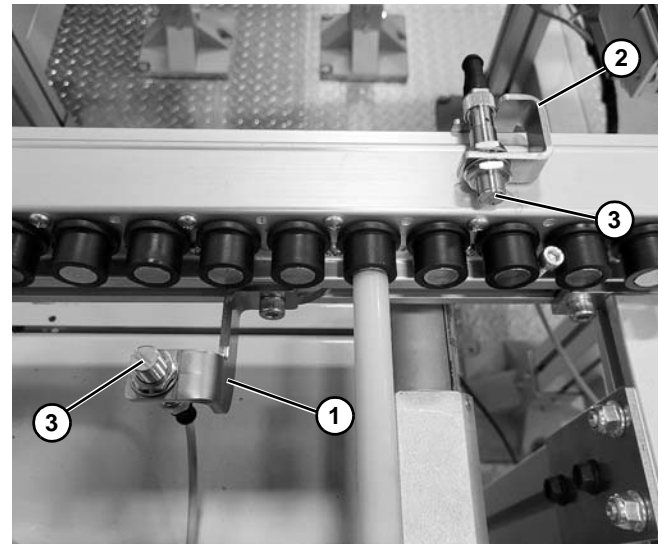

Figure 26
Optional bottom mount (Figure 26, item 1) or side mount (Figure 26, item 2) sensor brackets can be used to mount a 12 mm barrel proximity sensor (Figure 26, item 3).